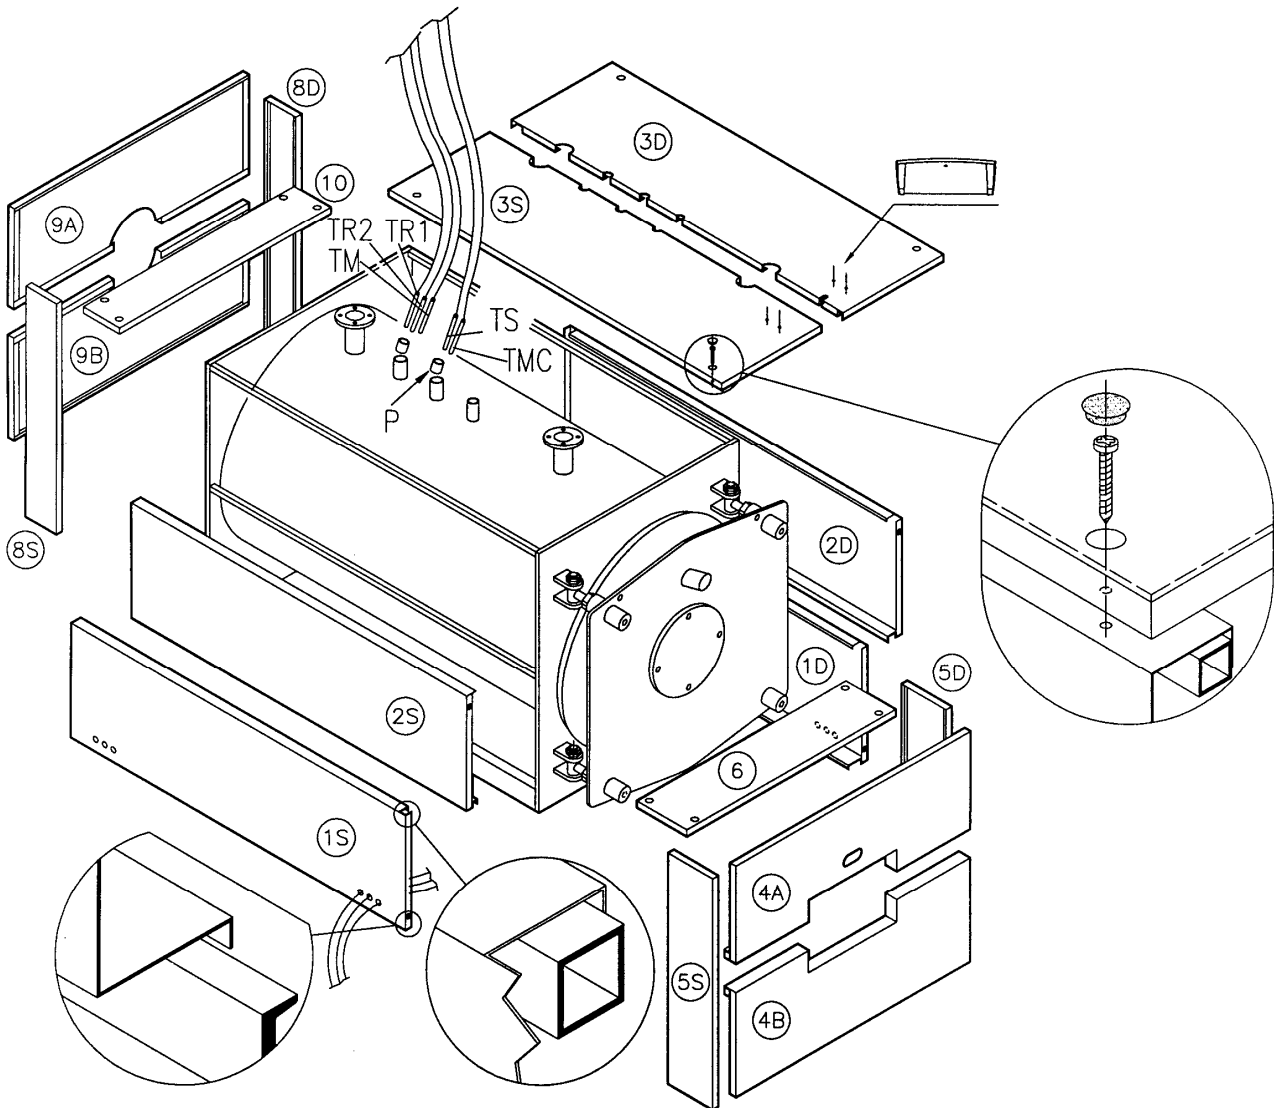

Fig. 9
4.3 RCB 3S/RCB 3S M 500÷1300 BOILER CASINGS (Fig. 9)
- f) Fit the panels (5S) and (5D), connecting them to the side panels by means of the brackets; fit the front panels (4B) and (4A) connecting them to panels (5S) and (5D). Close the manhole casing by fitting the upper panel (6) secured by screws; close holes with special caps (see figure).
- g) Fit the panels (8S) and (8D), connecting them to the side panels by means of the brackets; fit the rear panels (9B) and (9A) connecting them to panels (8S) and (8D). Close the smokebox casing by fitting the upper panel (10) secured by screws; close holes with special caps (see figure).